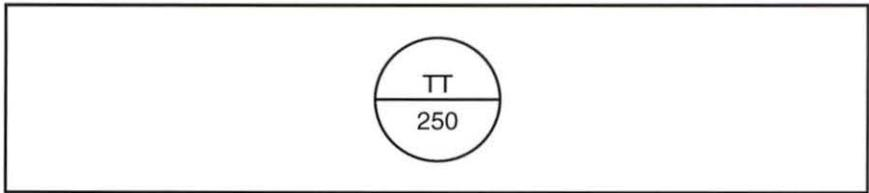

Figure 65. Instrument Tag
5. Determine the measured variable and function of the device using the instrument tag in figure 65.